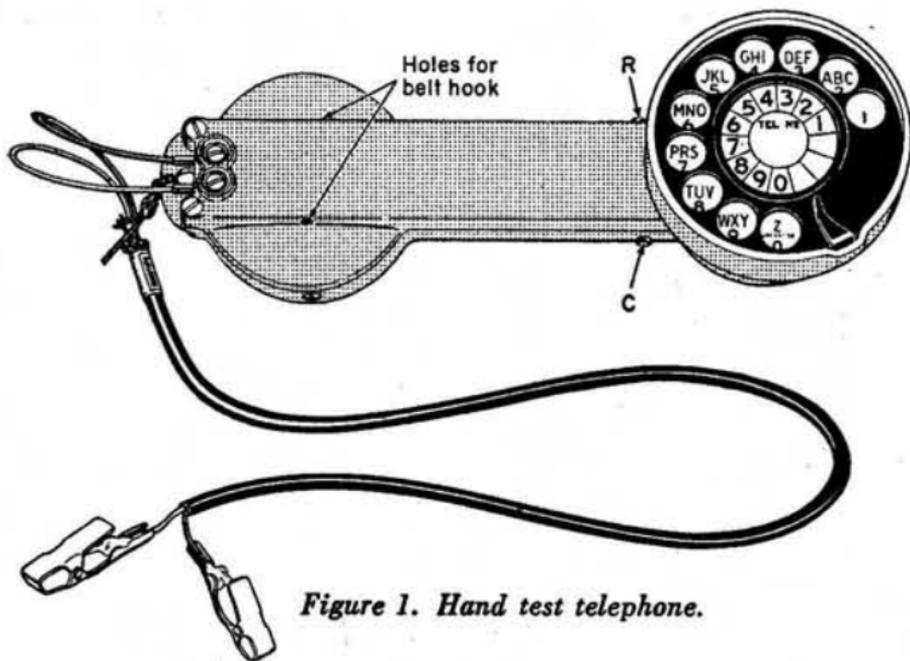

Figure 1. Hand test telephone.
- Hand test telephone, complete as shown in figure 1.....L-965-A2
- Cord with 2 test clips as shown in figure 1.....D-542320-A